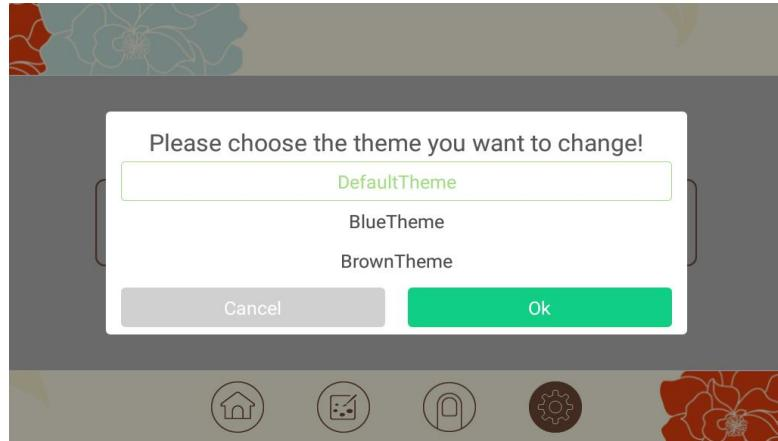

Figure 14
(2) Theme Modification: Press  and enter the theme interface to modify the theme. At present 3 types of themes are provided, including red, blue and brown, as shown in Figure 14. Red theme is shown in Figure 15. Blue theme is shown in Figure 16.